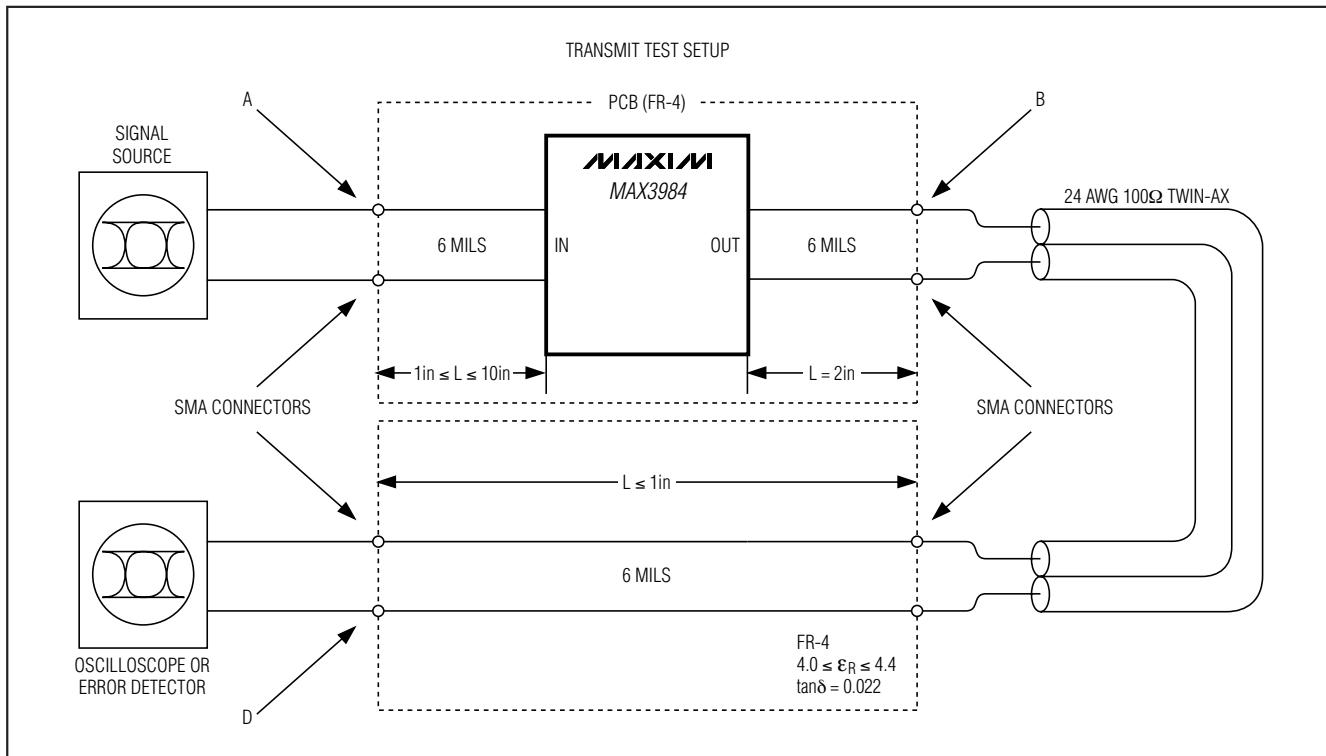

图2. 发送测试设置(标注为A、B、D的点为交流参数测试的参考点。在D点进行确定性抖动和眼图测量)。
**Note 9:** Input range selection is INLEV = logic-high for FR-4 input equalization. Cables are unequalized, Amphenol Spectra-Strip (160-2499-997) 24 AWG or equivalent. Residual deterministic jitter is the difference between the source jitter at point A and the load jitter point D in Figure 2. The deterministic jitter (DJ) at the output of the transmission line must be from media induced loss and not from clock source modulation. DJ is measured at point D of Figure 2.